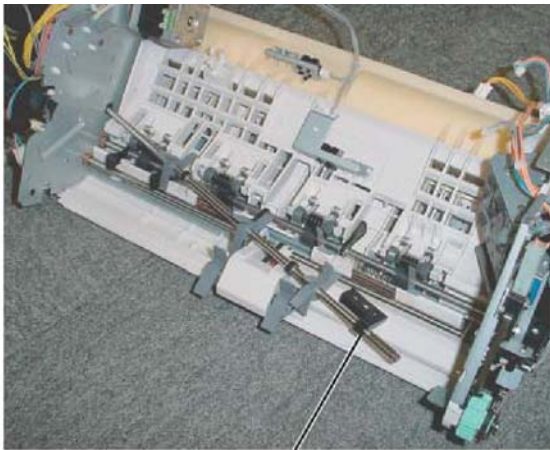

Figure 5 Main paddle shaft assembly removal
7. Remove the main paddle shaft assembly, Figure 5.